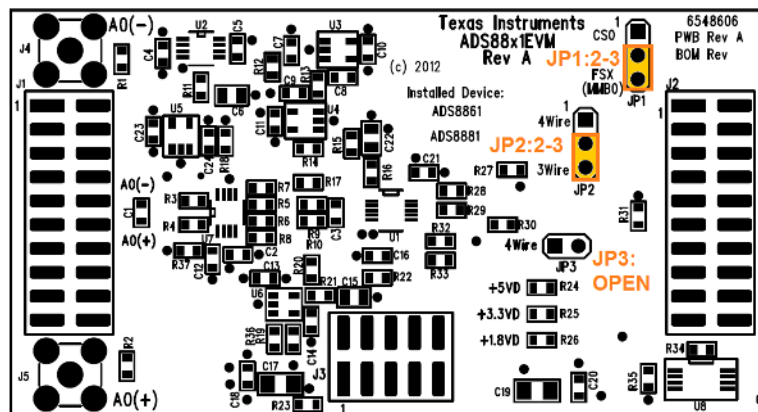

Figure 8. ADS8881EVM Jumper Configuration
Step 3. Set JP1:2–3, JP2:2–3, and JP3:open on the ADS8881EVM as shown in Figure 8.